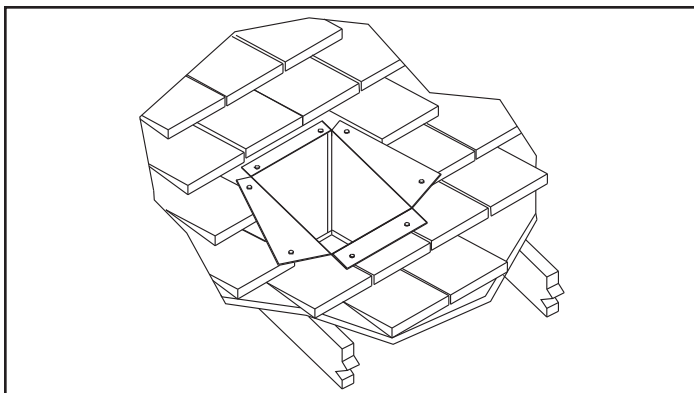

Figure 39
Step 5 - Using tin snips, cut the support box from the top corners down to the roofline, and fold the resulting flaps over the roof sheathing. The flaps may be trimmed as needed, Figure 39. Before nailing it to the roof, run a bead of non-hardening sealant around the support box to make a seal between the support box and the roof. Clean out any combustible material from inside the support box.